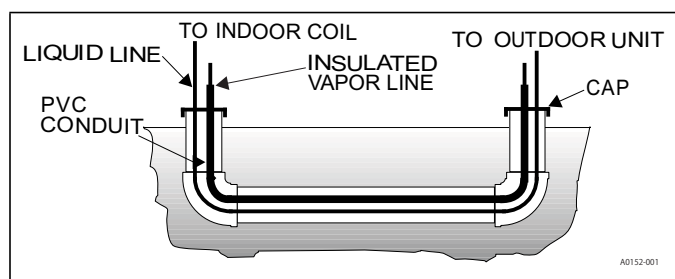

FIGURE 4: Underground Installation
9. Use PVC piping as a conduit for all underground installations as shown in Figure 4. Buried lines should be kept as short as possible to minimize the build up of liquid refrigerant in the vapor line during long periods of shutdown.